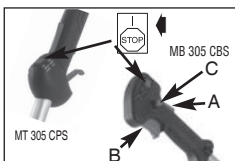

Fig. 9B
1. Press ON/OFF switch to the "RUN (I)" position (Fig.9B).
- 3b. For Bike handle "↖", set throttle lock (C): Press the lockout switch (A) down and then holding trigger (B) at partially open position, press down and hold throttle lock (C). Release throttle trigger (B). Throttle trigger (B) will now remain in the partially depressed position (Fig. 9B). (MB 305 CBS)